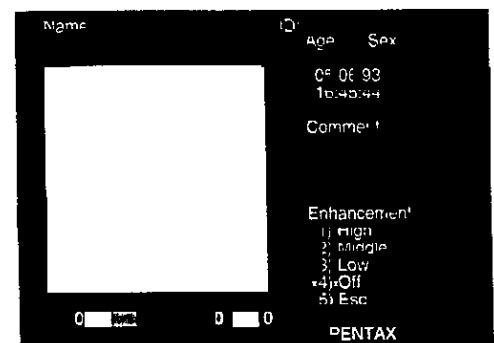

Fig. 44
2. The enhance sub-menu will be displayed in the sub-menu screen in the lower right of the monitor display (Fig. 44),